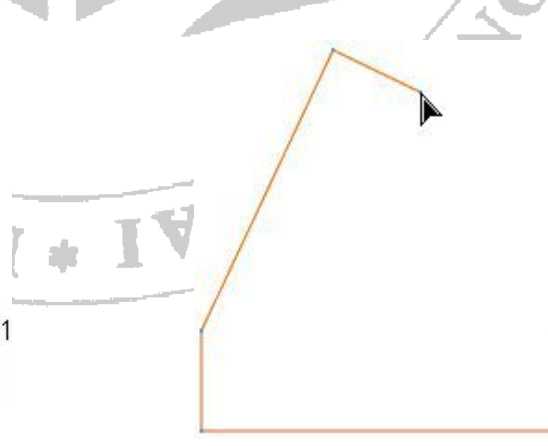

Fig. 2.3 Partial sketch with weak dimensions
7. Note that in Figure 2.3 there are some weak dimensions that are not displayed in Figure 2.4. This is because the weak dimensions are deleted without confirming their deletion. Hence, after drawing the arc some weak dimensions get deleted automatically.